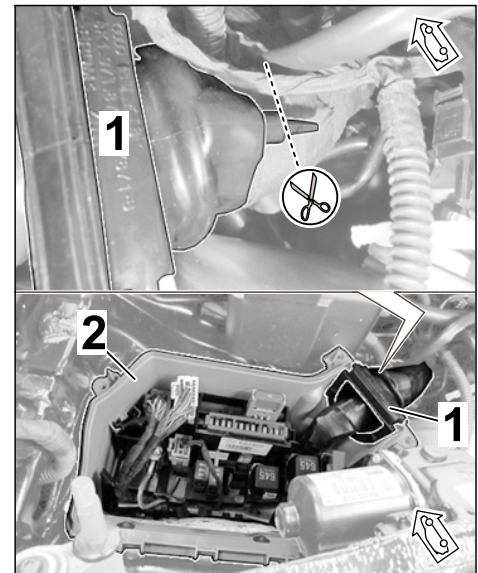

Figure 23
2.4.4 Remove sleeve from fuse box (E-box) in cowl panel and cut off pre-shaped cone (repair opening) (⇒ *Figure 23*).